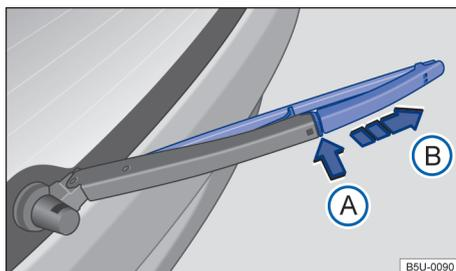

Fig. 132 Replacing the rear window wiper blades.
- Press and hold the release button → Fig. 132 ① at the same time pull off the windscreen wiper blade in the direction of the arrow.
- Remove the rear window wiper blade in the direction of the arrow ②.